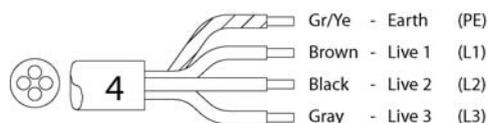

Fig 15
- (fig. 15) 3 ~ 230V (4-core cable).